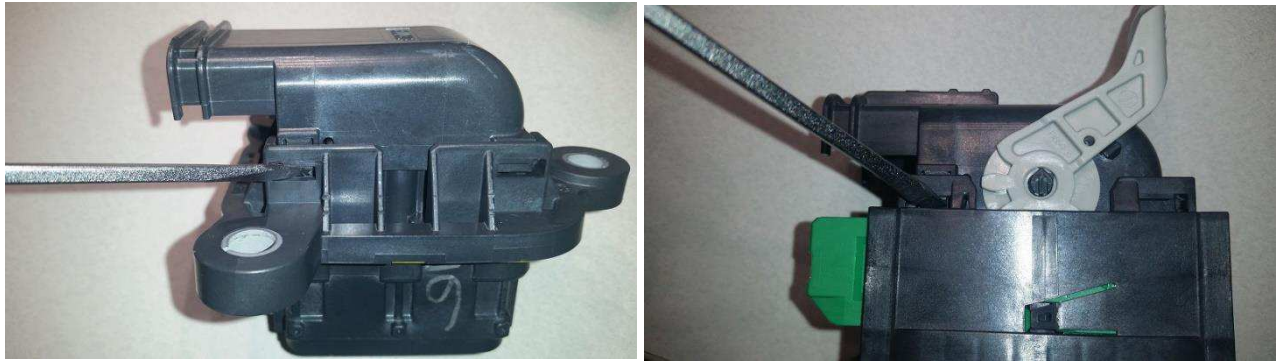

Figure 7: Tool Insertion Points for Wire Dress Removal (one each side)
5. Wire Dress removal: using a small flat blade screwdriver or similar tool, insert the tool where the 2 rear latches protrude through the locking windows of the main housing. Depressing each latch with the tool and rotating the rear of the Wire Cover upward will unlatch it from the main housing. See Figure 7 for detail.